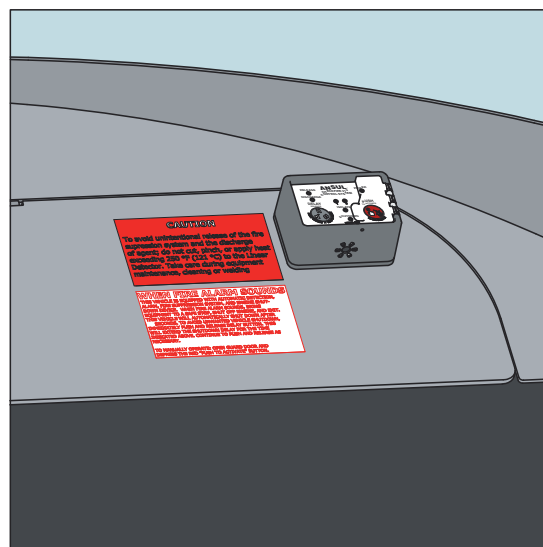
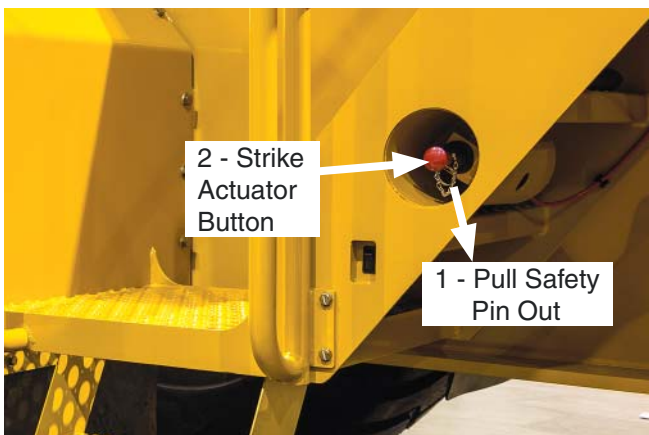
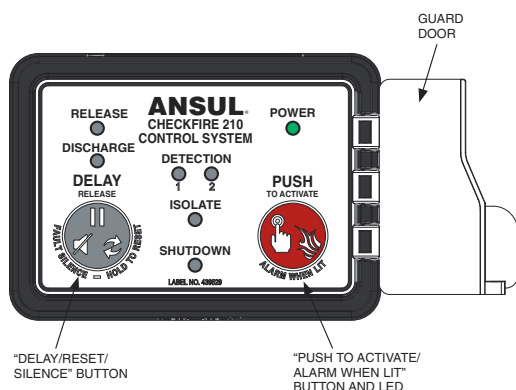

Figure 2-7-2 CHECKFIRE 210 Display Module
Figure 2-7-3 Ground Level Manual Actuator
Figure 2-7-4 CHECKFIRE 210 Display Module
Your Fire Suppression System consists of an automatic detection system and one manual actuator. The CHECKFIRE 210 display module is mounted on the right side of the dash (see Figure 2-7-2). A manual actuator is mounted on the chassis, at ground level, just to the right of the left side boarding stairs (See Figure 2-7-3).
The operator may activate the system by pressing the red button on the CHECKFIRE 210 display module mounted on the right side of the dash (see Figure 2-7-2 and Figure 2-7-4).
Ground personnel may active the fire suppression system by pulling the pin and striking the button on the ground level actuator mounted on the chassis, at ground level, just to the right of the left side boarding stairs (See Figure 2-7-3).
1. Swing the guard door open, press the red “Push to Activate” button on the CHECKFIRE 210 display module and then LEAVE THE VEHICLE (see Figure 2-7-4). Fire retardant will be released, the engine will shut down, and the batteries will be disconnected from the electrical system.